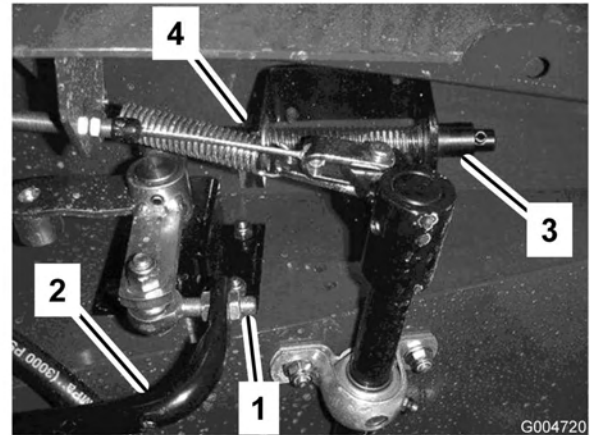

Figure 68
3. Loosen the jam nuts on the rod end and adjust the traction rod length (Figure 68) so that the pedal contacts the pedal stop when the pump lever reaches full stroke. Secure the jam nuts.
3. Fill the reservoir (Figure 68) with approximately 8 U.S. gallons (30 l) of hydraulic fluid; refer to Checking the Hydraulic Fluid.